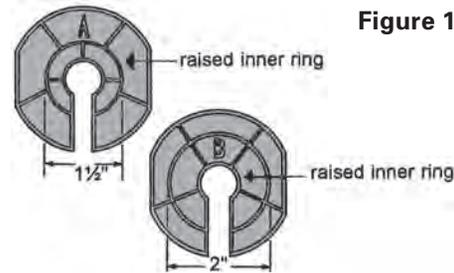

Figure 1
If you are using a Rubbermaid tank and have removed the drain assembly as described above, you should choose side "B" of the nut as shown in Figure 1. You will install your deicer with this side facing the tank.
- i. Determine the correct side by placing the nut against the drain hole on the outside of the tank. Try to fit the diameter of the raised inner ring of each side of the nut into the inner diameter of the drain hole (see Figure 1). Choose the side that fits most snugly. This
- ii. If the raised inner ring (on both sides of the nut) shown in Figure 1 is larger in diameter than the drain hole diameter found on your tank, then you may use either side of this nut. This indicates that the drain hole is small enough to allow your de-icer to remain centered within the drain opening.